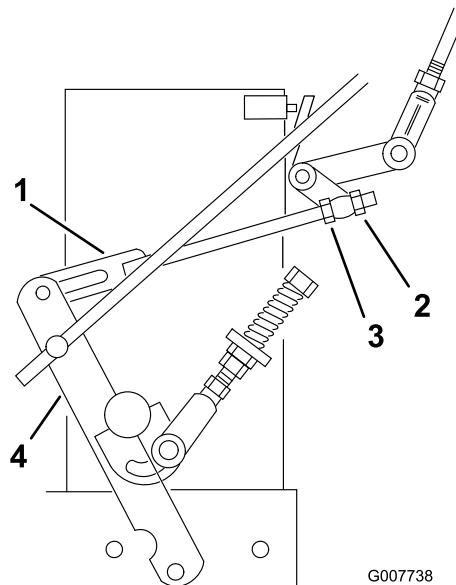

Figure 34
8. Loosen the front adjusting nut on left hydro control linkage as shown in Figure 34.
9. Turn the left rear adjusting nut counter-clockwise until wheel rotates forward (Figure 34).
10. Turn the rear adjusting nut clockwise 1/4 of a turn at a time. Then move the speed control lever forward and back to neutral. Repeat this until left wheel stops rotating forward (Figure 34).